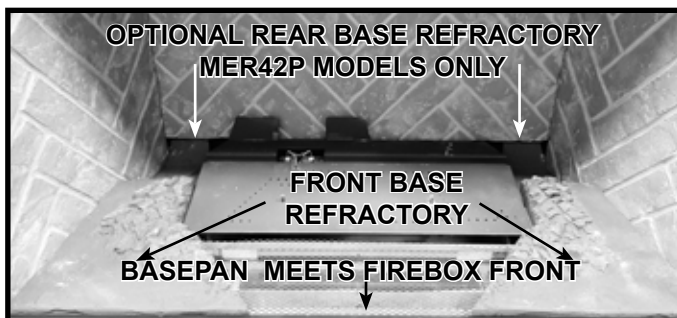
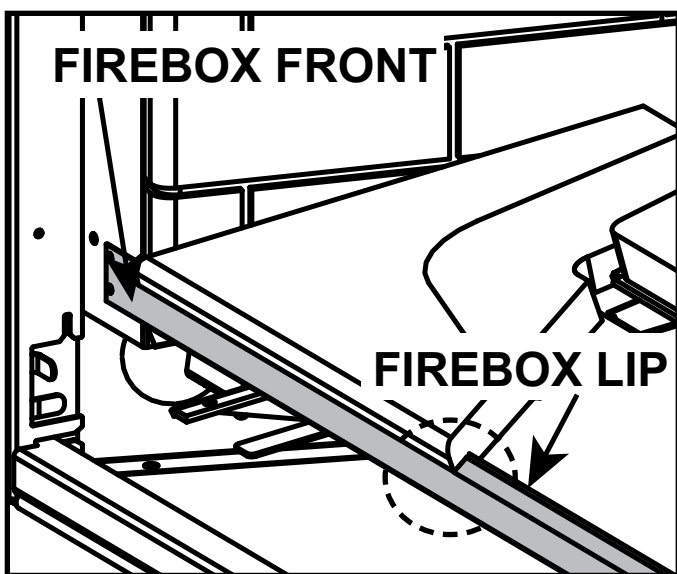

Figure 11.8 MER42P Models Only: Base Refractory Pieces Installed
Figure 11.9 Front Base Refractory Installed
8. Prior to placing base refractory, ensure the basepan is centered left to right and is positioned forward enough that it contacts the firebox front as noted in Figure 11.8. Place the two front base refractory pieces as shown in Figure 11.8. Ensure that the profile of the refractory fits over the firebox lip as shown in Figure 11.9.